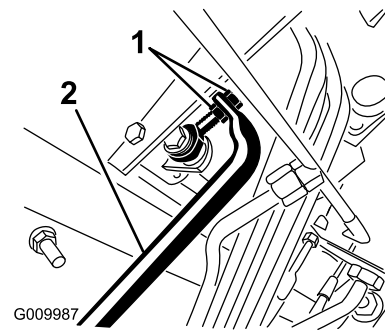

Figure 96
5. Adjust the jam nuts on the pump rod end to move the pump control tube forward to eliminate forward creep or rearward to eliminate rearward creep (Figure 96).